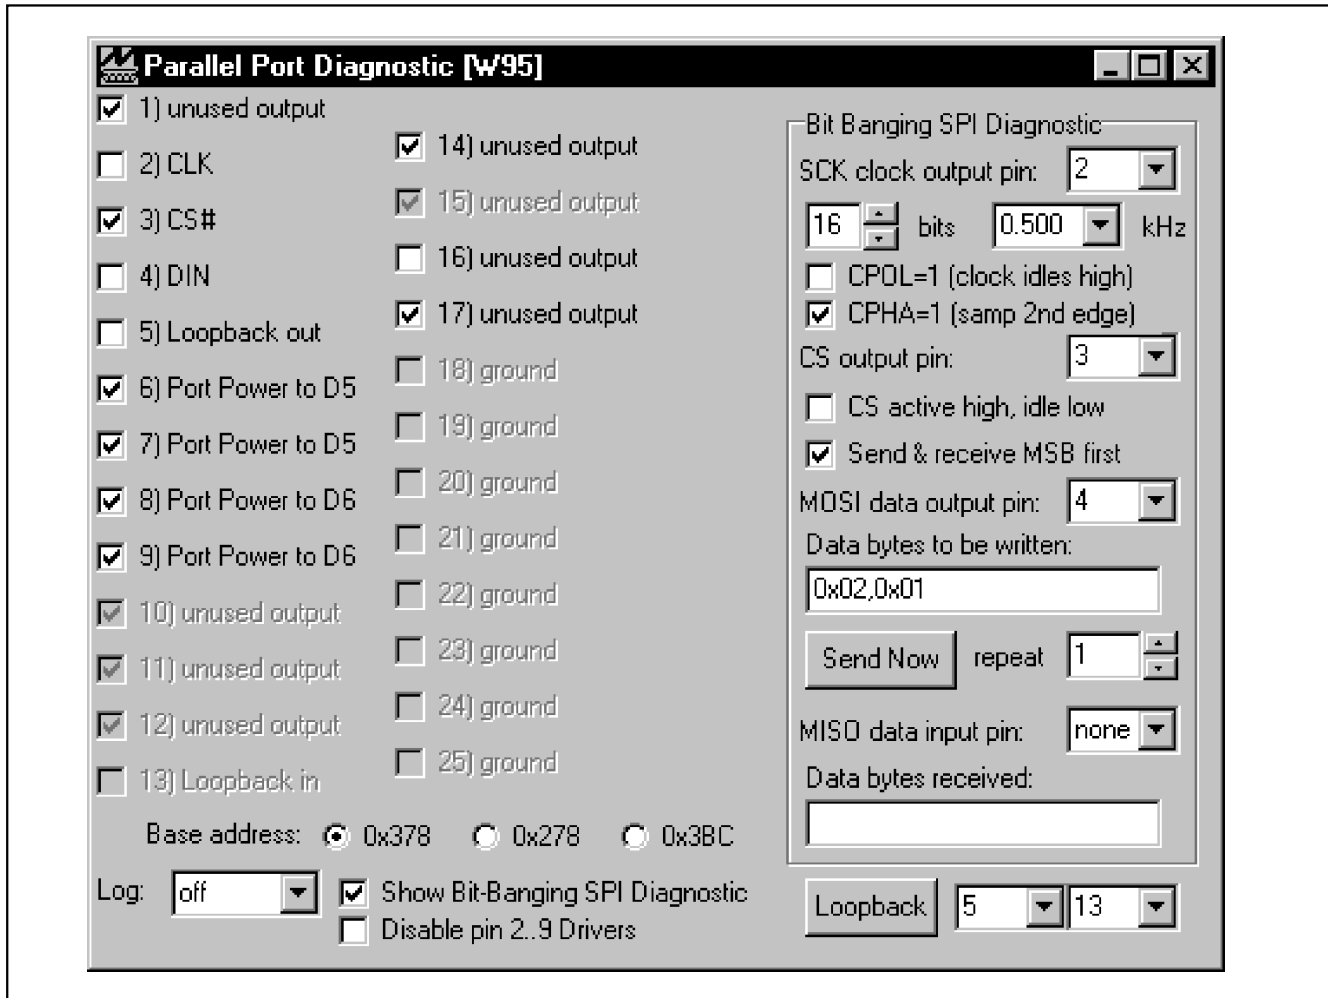

Figure 2. SPI Utility Showing the Settings to Communicate with the MAX6951 EV Kit
There are two methods for communicating with the MAX6951 (Figure 2): through the Main Panel display or through the general-purpose **SPI utility**. The utility configures the SPI parameters such as clock polarity (CPOL), clock phase (CPHA), and chip select (CS) polarity. The fields where pin numbers are required apply to the pins of the parallel port connector. When using the SPI utility, the Main Panel display no longer keeps track of changes sent to hardware. The SPI utility is preconfigured for the proper setting of CPOL, CPHA, and CS.